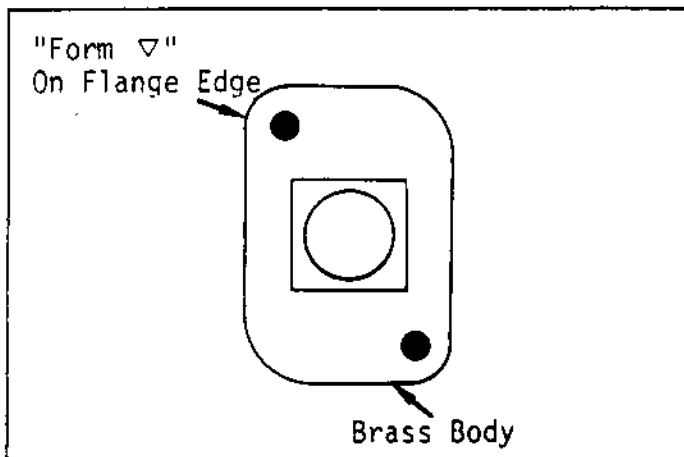

FIGURE 11 - ASCO Unloader Solenoid Valve
- (5) The unloader solenoid valves may have leaky "O" rings. This results in an oil leak which is visible externally to the compressor at the unloader handhole cover. The Trane Company uses two manufacturers for the unloader solenoid valves, ASCO and Product Engineering Corporation. See Figures 11 and 12 for identification and proper orientation looking at the handhole cover.